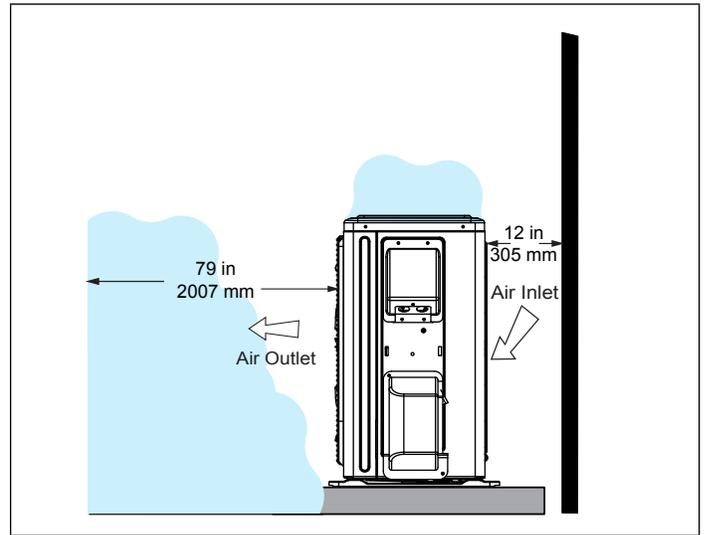

Figure 15. Outdoor Unit Air Flow Obstructed by Snow
- In heavy snow areas, do not place the unit where drifting will occur as illustrated in “Figure 15. Outdoor Unit Air Flow Obstructed by Snow”